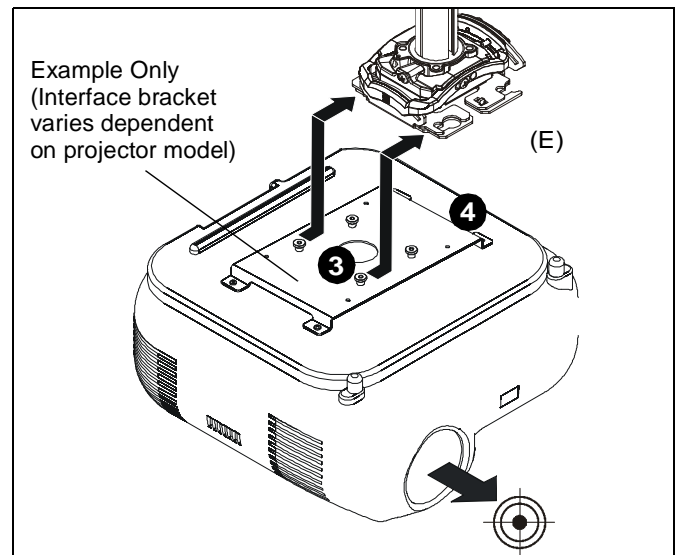

Figure 14
2. Orient projector with interface bracket. (See Figure 14)
3. Lift projector so that screws with thumb nuts are aligned with mounting slots in mount base. (See Figure 14)
4. Slide projector with mounting bracket onto mounting slots in mount base until screws are seated against the back of mounting slots. (See Figure 14)